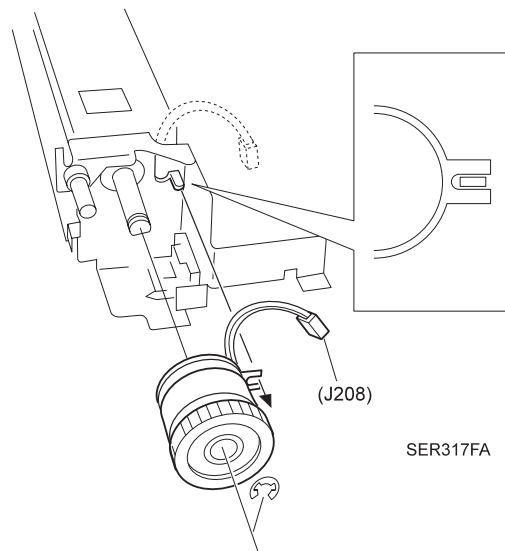

Figure 4
6. Remove the E-ring securing the MSI Feed Clutch to the Feed Shaft and slide the Clutch off of the Feed Shaft (Figure 4).
3. Rotate the Clutch so the notch in the Clutch fits into the key in the Assembly (Figure 4).